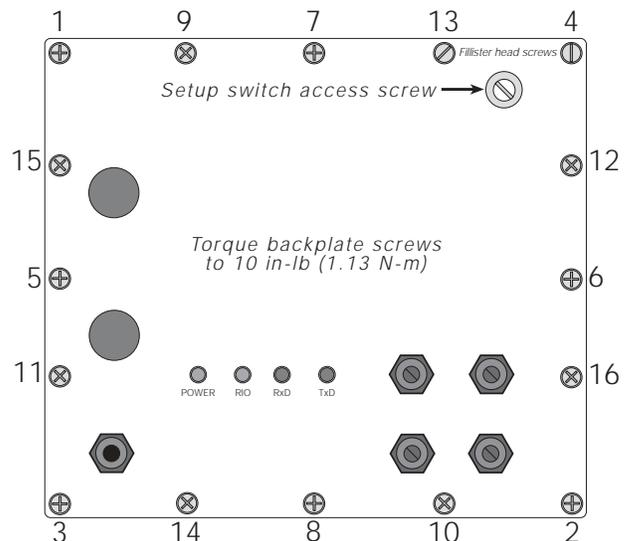

Figure 2-3. IQ plus 510/710/Remote I/O Backplate
21. Position the backplate over the enclosure and reinstall the backplate screws. Use the torque pattern shown in Figure 2-3 to prevent distorting the backplate gasket. Torque screws to 15 in-lb (1.7 N-m).
Once wiring and DIP switch configuration (see Section 2.3) are complete, position the backplate over the indicator enclosure and reinstall the backplate screws. Use the torque pattern shown in Figure 2-3 on page 3 to prevent distorting the backplate gasket. Torque screws to 10 in-lb (1.13 N-m).
Four LEDs on the IQ plus 510/710 backplate provide status information for the operator (see Figure 2-3 on page 3). Table 2-6 summarizes the function of the LEDs. See Section 6.0 on page 33 for more troubleshooting information.